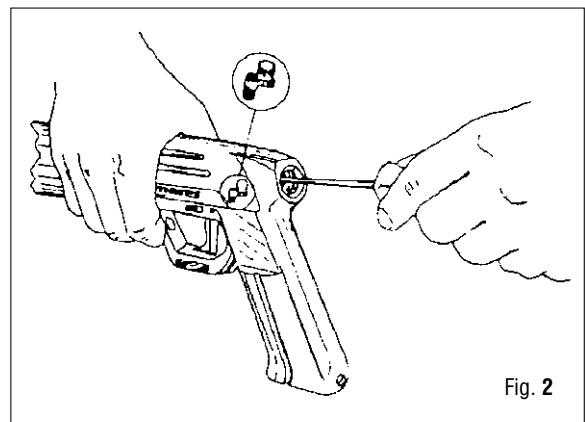

Fig. 2
4. With a metal rod (approximately 1.5 mm. diameter), depress the inlet valve ball, until all the air is fully released from the speargun (Fig. 2).